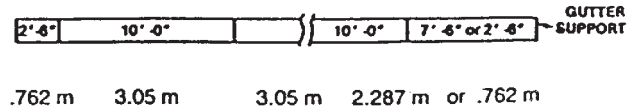

Fig. 5
- a. Start with the 2'6" (.7625 m) section found in the basic package, followed by the 10' sections , ending with the 7'6" (2.2875 m) or 2'6" (.7625 m) section at the opposite end (see Fig. 5).